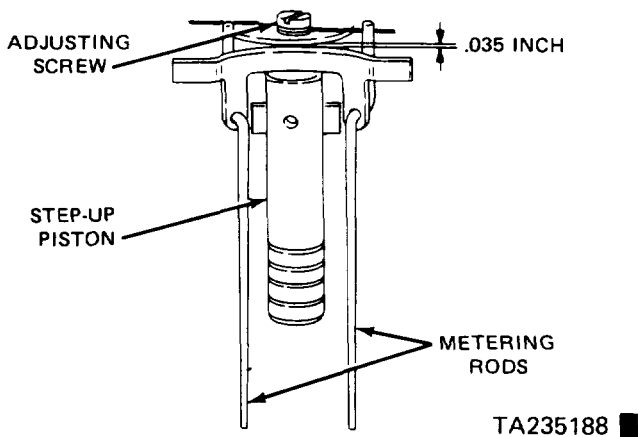

Figure 12-12. Step-Up Piston.
- (1) Adjust the gap in the step-up piston (figure 12-12) by turning the allen head screw on top of the piston. The gap should be 0.035 inch.
- (2) Install the metering rods in the holes in the piston yoke. Be sure the rods are straight and free of nicks or burrs.
- (3) Install the step-up piston assembly in the bore in the air horn, making sure the metering rods are positioned in the metering jets.